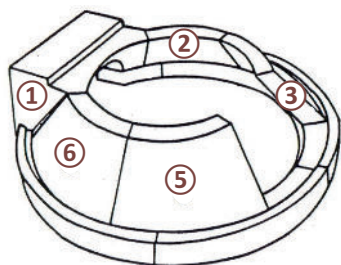

Figure 2
**Step 4, figures 2, 3 and 4:** Place the front element (1) on the crown and position the elements (2) and (6), then (3) and (5), and finally (4), without making any joints beneath or between these 5 elements. Securely fasten the metal strapping (10) to the base crown, ensuring a tight fit to ensure proper alignment of the oven side elements.